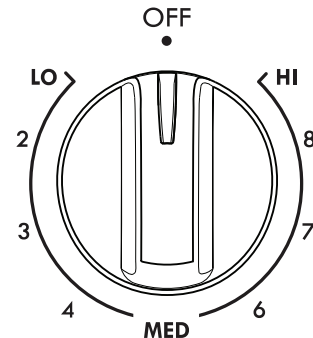

Figure 4: Surface control knob
2. Push in and turn the surface control knob in either direction (Figure 4) to the desired setting (refer to the “Suggested radiant surface element settings” table, Table 1).
Start most cooking operations on a higher setting and then turn to a lower setting to finish cooking. The surface control knobs do not have to be set exactly on a particular spot. Use the graphics provided as a guide and adjust the control knob as needed (see Figure 4). A glowing red surface heating area extending beyond the bottom edge of the cookware indicates the cookware is too small for the surface heating area.